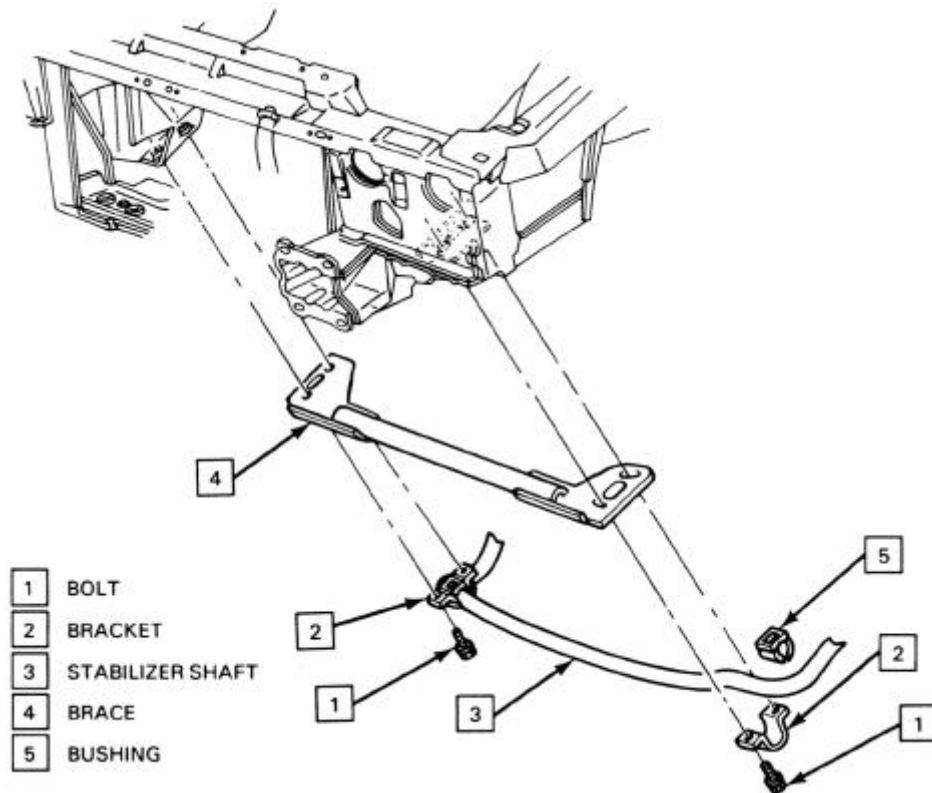

Figure 1
Figure 1 above shows an item 4 called a "Brace". This is a Steering Brace (aka Wonder Bar). GM installed these on 1985-90 Camaro IROC-Z when equipped with the 16" diameter rims. The Steering Brace performs two functions. First it ties the left and right sides of the frame together under the front of the car, which maintains the correct geometry of the pitman arm and idler arm during cornering. Second, the Steering Brace strengthens the chassis and takes stress off of the steering gear box mount. It is common in ThirdGen F-Bodies for fatigue and stress cracks to form around the steering gear box mounting location. Installing a Steering Brace will help tighten up the front end and prevent stress cracks from occurring. GM has recently discontinued their Steering Brace. Top-Down Solutions makes a Steering Brace (p/n 105021) for the 1983-92 F-Bodies.